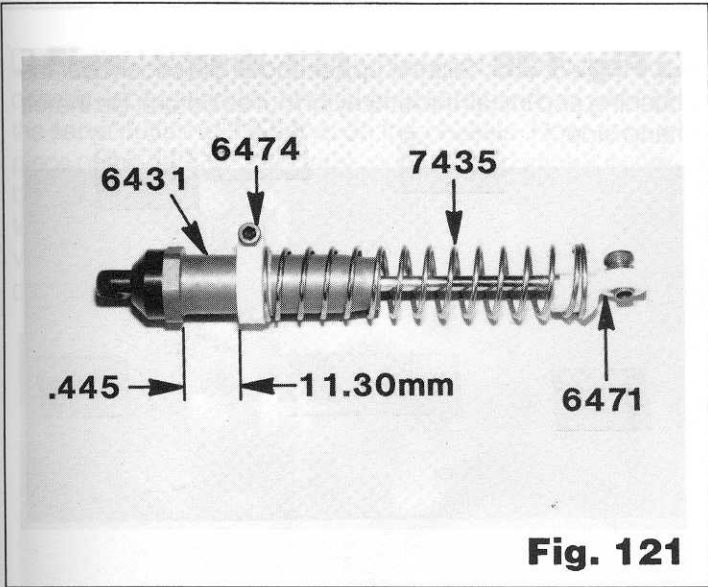

**Fig. 120**
- Fig. 120** Push the shaft up so the piston is up to the top of the body, otherwise there will be too much internal pressure. VERY CAREFULLY screw the shock cap onto the body, making sure the cap goes on straight. BE CAREFUL not to crossthread the cap.